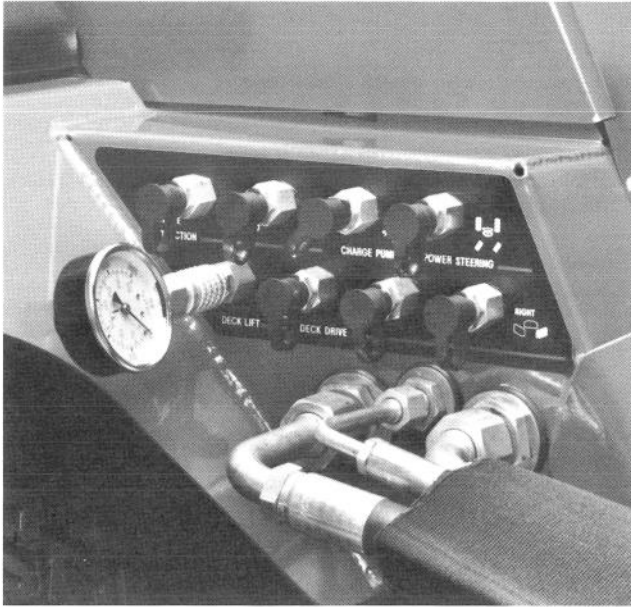
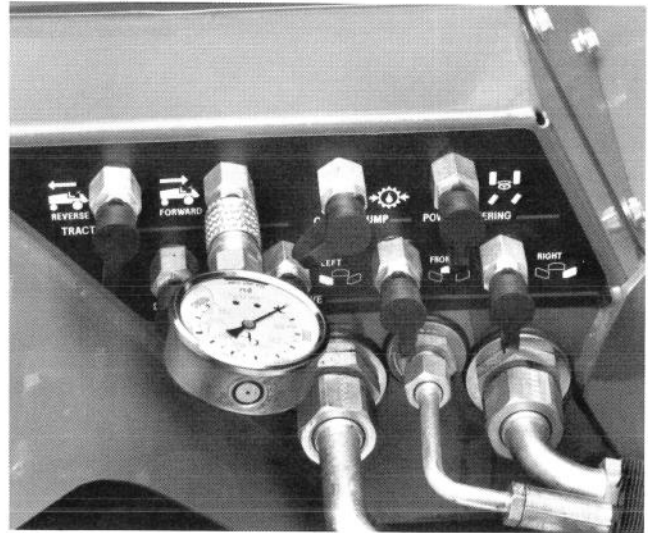

Figure 17
Figure 18
1. Connect a 1,000 psi gauge to LIFT test port (Fig. 17).
1. Connect a 1,000 psi gauge to LIFT test port (Fig. 17). Connect a 5,000 psi gauge to TRACTION FORWARD test port (Fig. 18).